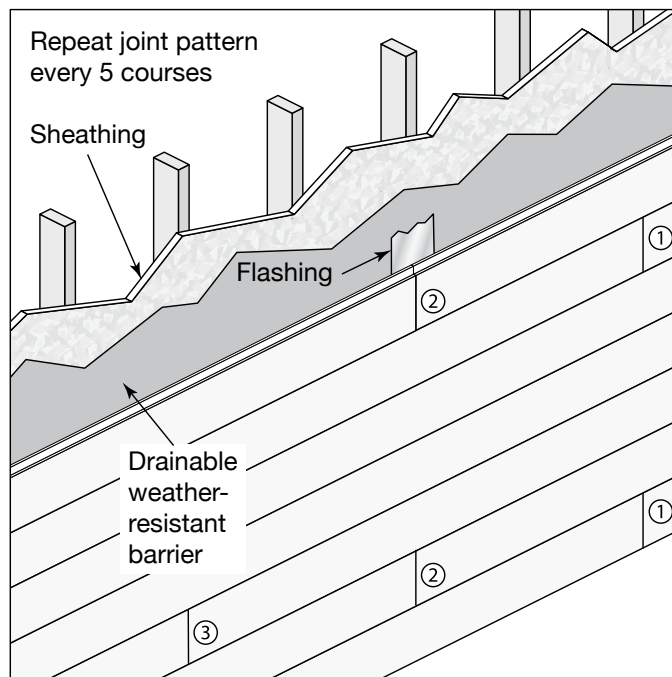

Fig. 5
- Always stagger your butt joints over stud locations (**Fig. 5**).